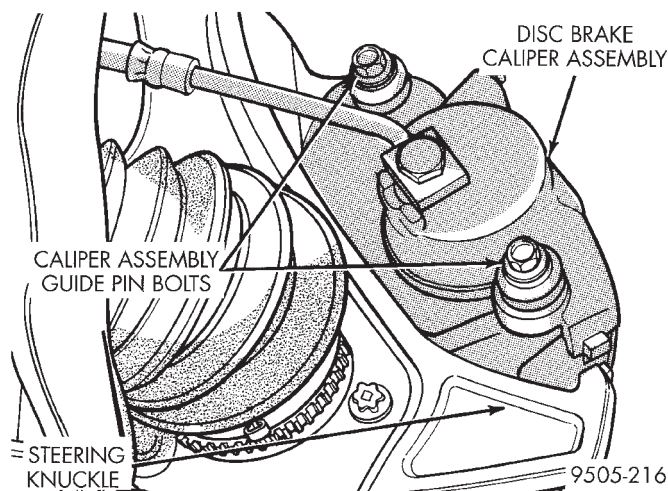

Fig. 4 Caliper Guide Pin Attaching Bolts
(3) Raise vehicle on jack stands or centered on a frame contact type hoist. See Hoisting, in the Lubrication and Maintenance section, for required lifting procedure to be used for this vehicle.
(4) Remove front tire and wheel assembly from the hub.
(5) Remove front disc brake caliper assembly from steering knuckle guide pin attaching bolts (Fig. 4).